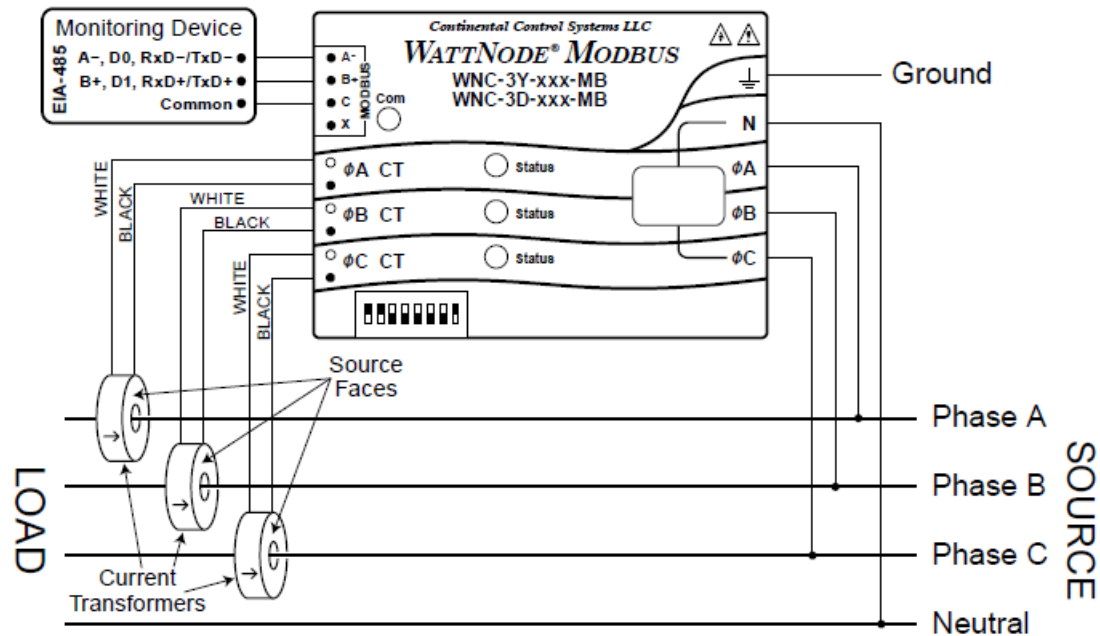

Figure 1: WattNode Wiring Diagram
Table 1 above lists the WattNode models and common circuit types. In the “Electrical Service Types” column, when two voltages are listed with a slash between them, they indicate the line-to-neutral / line-to-line voltages. The “Line-to-Neutral” and “Line-to-Line” columns show the operating ranges for the WattNode meters. “non-N.A.” refers to non-North American electrical services. Connect the line voltages to the meter inputs as shown in the following figures for each service type. See Figure 1 above for an overview.
- Verify that the line voltages are in the range of the line-to-line Ø-Ø and line-to-neutral Ø-N values printed in the white box on the front label. The screw terminals handle wire up to 12 AWG. Connect each voltage line to the green terminal block as shown in Figure 1 above. After the voltage lines have been connected, make sure both terminal blocks are fully seated in the meter. Connect each line voltage to the appropriate phase; also connect ground and neutral (if applicable). The neutral connection “N” is not required on delta models (3D-240, 3D-400, and 3D-480), but we recommend connecting it to ground if neutral is not present. When power is first applied, check that the LEDs behave normally. If you see LEDs flashing red-green-red-green (see Figure 7), the line voltage is too high for this model, so disconnect the power immediately!